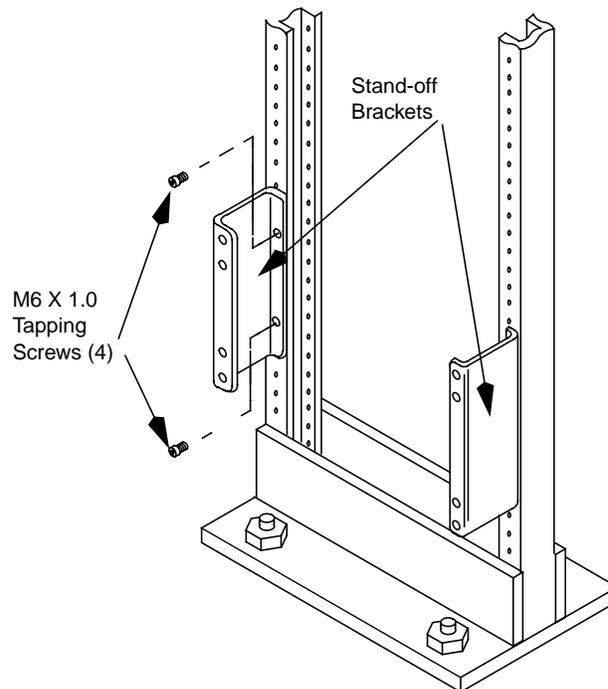

Figure 4-5: Attaching the Brackets to the Rails
- c. Install the brackets on the rails using four M6x1.0 tapping screws (see Figure 4-5).